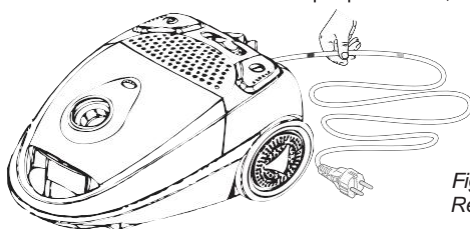

Figure 8
- ⚠ Guide the power cord whilst it rewinds onto the reel, since otherwise the cord could become tangled or the plug could strike the back of the appliance. Take hold of the power cord near the mark, and allow it to gently slide through your fingers back into the appliance, see Figure 8.